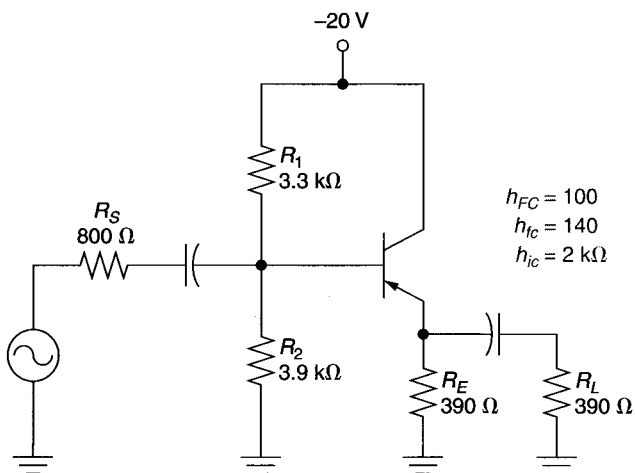

FIGURE 10.23
- Calculate the gain and impedance values for the circuit in Figure 10.23.